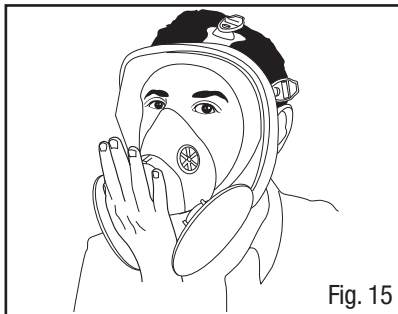

Fig. 15
2. Place the palm of your hand over the exhalation valve and exhale gently (Fig. 15). Care must be taken to ensure a good seal of the exhalation valve. To do this, cover the entire face of the blue valve with the base of the palm.